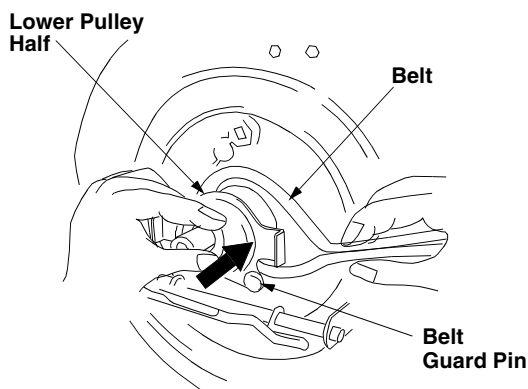

Figure 23
- Pinch both sides of the belt together so that the belt is not in the pulley groove, and the lower pulley can be pushed towards the engine. See Figure 23